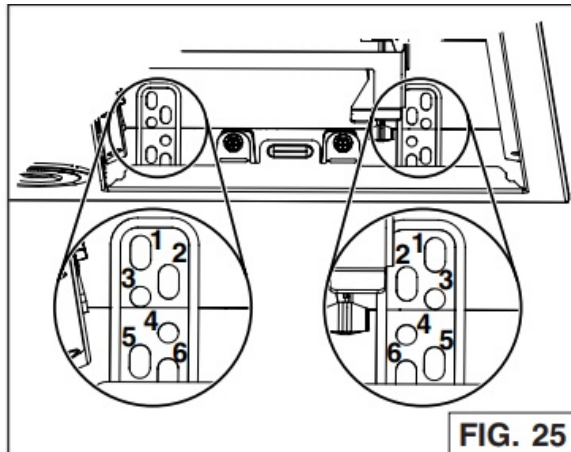

FIG. 25
3. Lift the unit until contact is made between the unit flange and cabinet. Secure the unit to the cabinet using 4 no. 8 x 5/8" wood screws included in parts bag (2 screws per side). Use upper or lower holes (1, 2, 3, 4, 5 or 6) (FIG. 25).